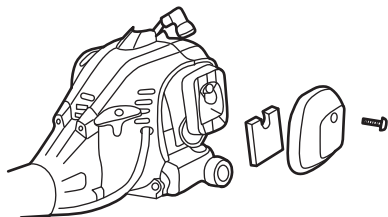

Fig. 38
2. Open the air filter case (A5) with the cross-head screwdriver (E1, E2), and remove the filter. (See Fig. 38)